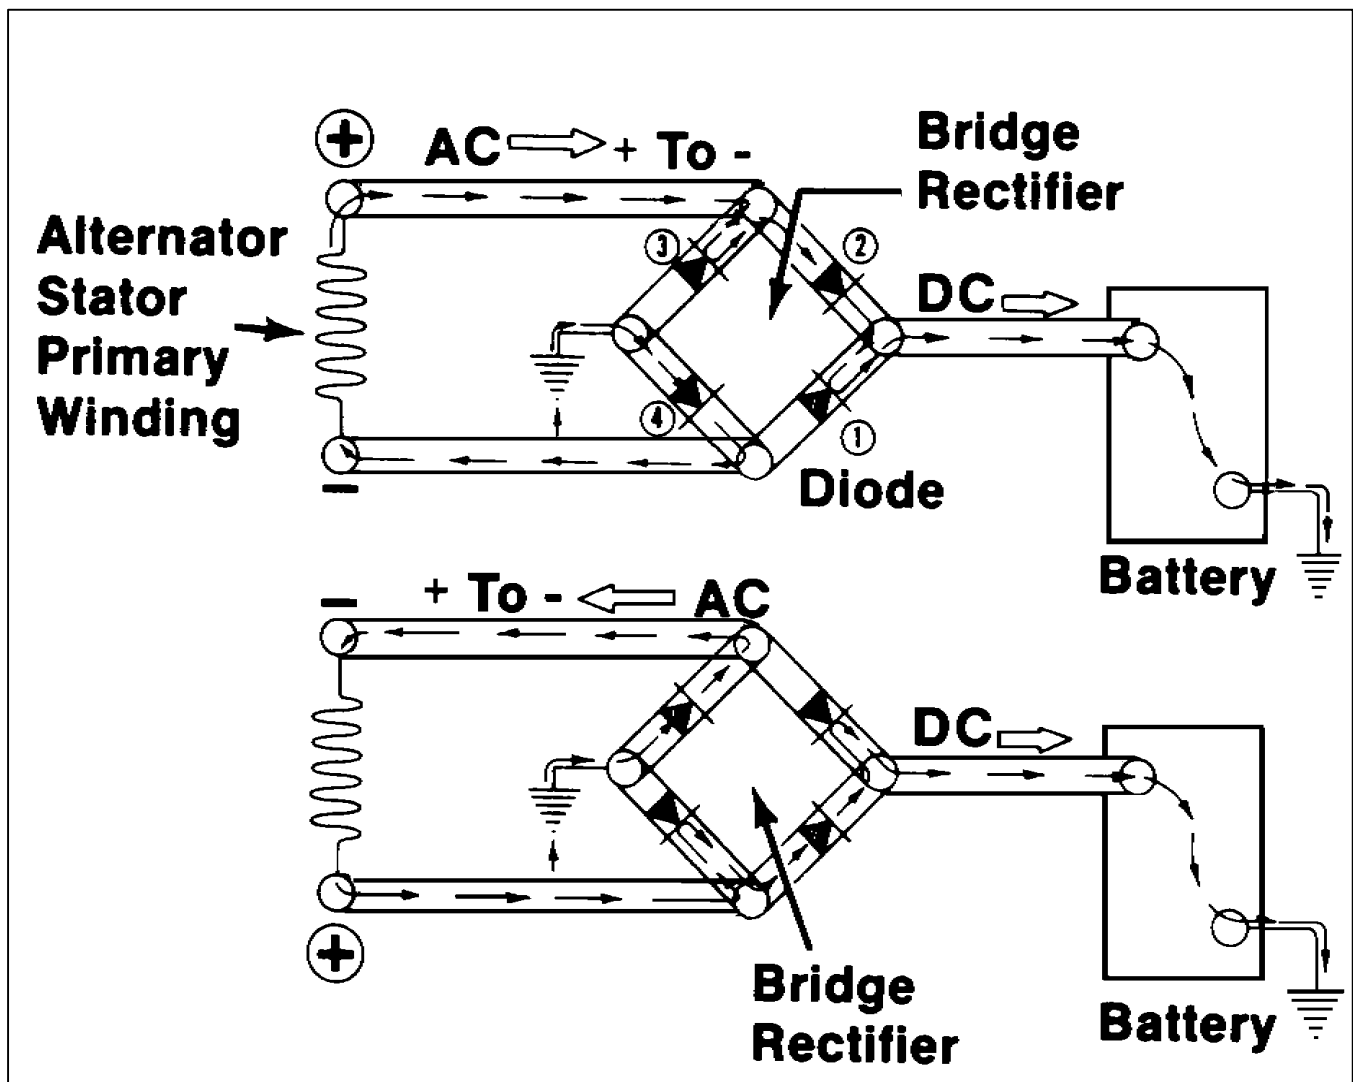

Figure 55
Stator type charging systems operate by producing alternating current in the stator coils and converting this current (AC) to direct current (DC). This is done by the bridge rectifier. The alternating current is allowed to flow out of the rectifier to the battery in only one direction. Figure 55 shows a full wave rectifier. The current produced in both directions is converted to DC.